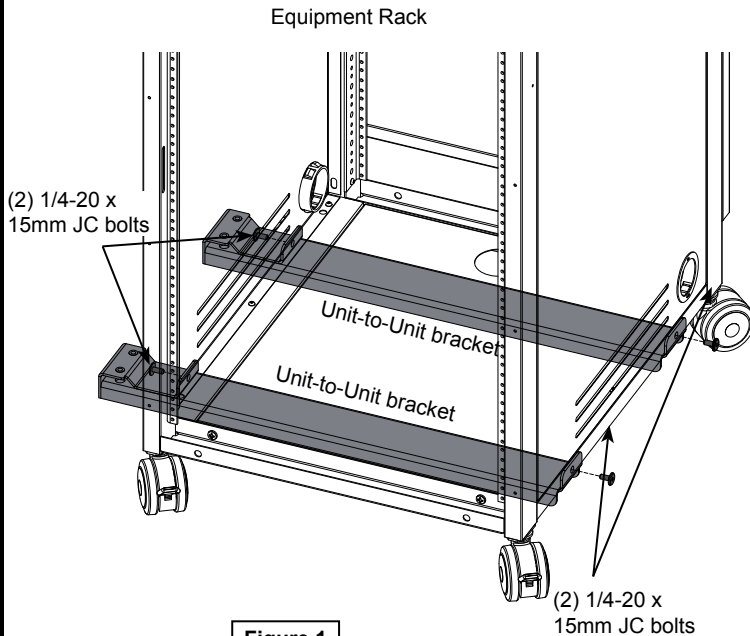

Figure 1
- Attach the unit-to-unit brackets to the equipment rack side panel mounting holes with (4) 1/4-20 x 15mm JC bolts. **Figure 1.**